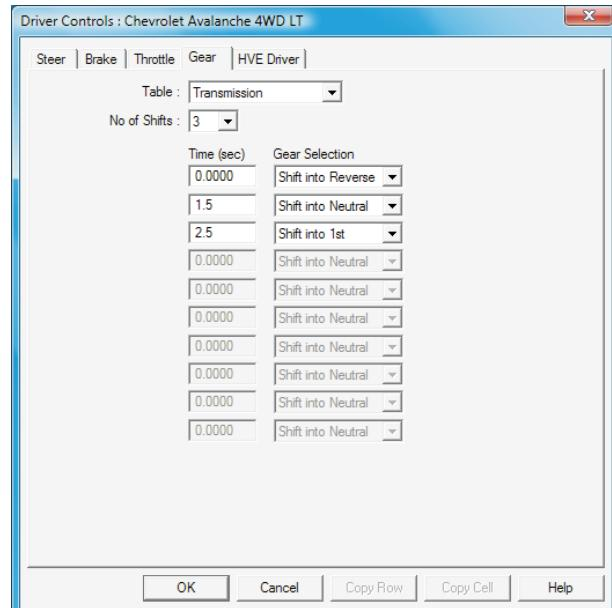

Figure 4 - Gear shift table (used only for manual transmissions)
**Gear Shift Table** – This is the table of user-entered gear shifts. See Figure 4. (This table is not required when the vehicle has an automatic transmission.)